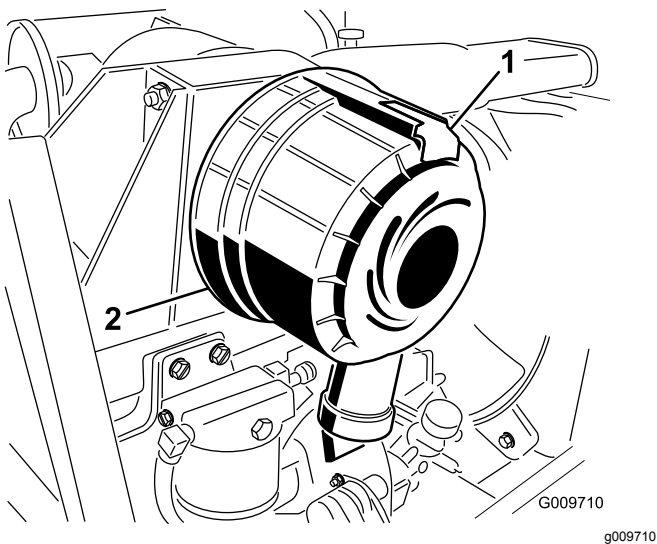

Figure 82
2. Pull the latch outward and rotate the air-cleaner cover counterclockwise (Figure 82).